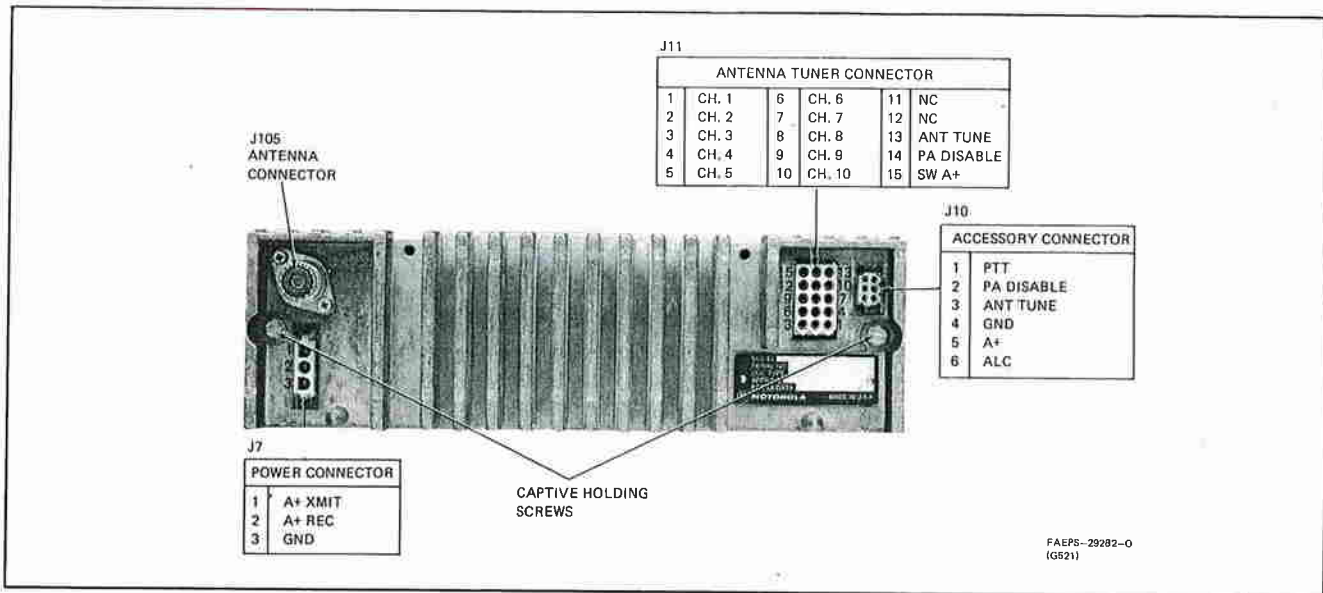

Figure 3. Rear External Connections
Step 3. Select a simplex channel and key the transmitter in the tune mode using the tune-up plug which grounds J10-3, of the 6-pin accessory connector (see Figure 3). Be sure that no audio input is present by removing the microphone connector.